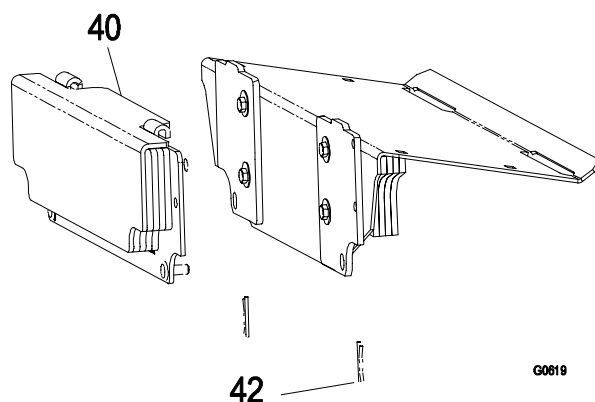

FIGURE 5
- 3.4.13 Hook weight plate assembly (Item 40) over the top of the weight mounting plates and secure with two hairpins (Item 42) as shown in Figure 5.